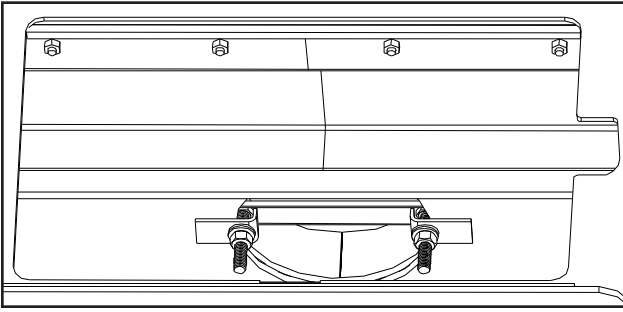

Figure 14: Removable flue collar in place.
A) Remove the rear two (2) secondary air tube and C-Cast Ceramic Baffles, if installed (see C-CAST CERAMIC BAFFLE INSTALLATION). Remove the secondary air tubes by placing a screwdriver (any style except flat head) into one of the air holes and tapping it with a hammer/mallet to the left.
B) Unscrew the two (2) nuts on top of the inside of the firebox, using a $\frac{9}{16}$ \"/>
F) Place the Collar Puller, over the two bolts of the Flue Collar and pull it into place (see Figure 14). Ensure that the bolts are to the left and right of the hole. If they are not, the front secondary air tube will need to be removed in order to install or remove the C-Cast Ceramic Baffles.
H) Re-install C-Cast Ceramic Baffles and the rear two (2) secondary air tube (see C-CAST CERAMIC BAFFLE INSTALLATION).